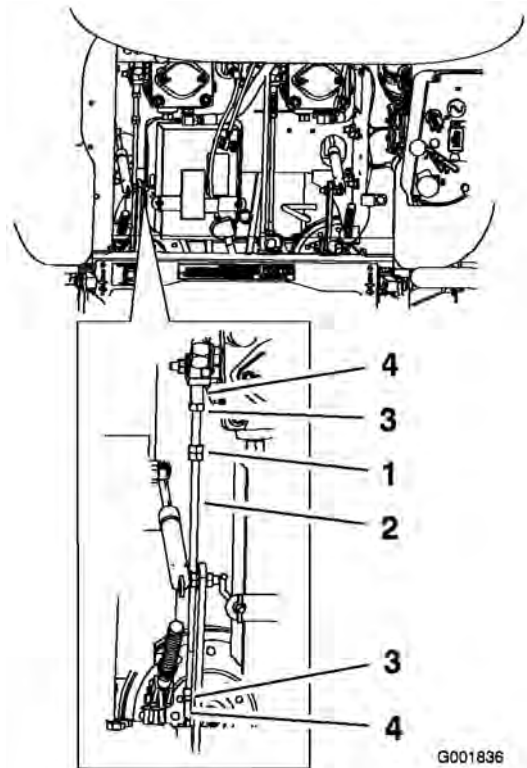

Figure 59
- Loosen the locknuts at the ball joints on the pump control rod (Figure 59).
- Adjust the pump rod length by rotating double nuts on the rod, in the appropriate direction, until the wheel is still or slightly creeps in reverse (Figure 59).
- Tighten the locknuts at the ball joints (Figure 59).